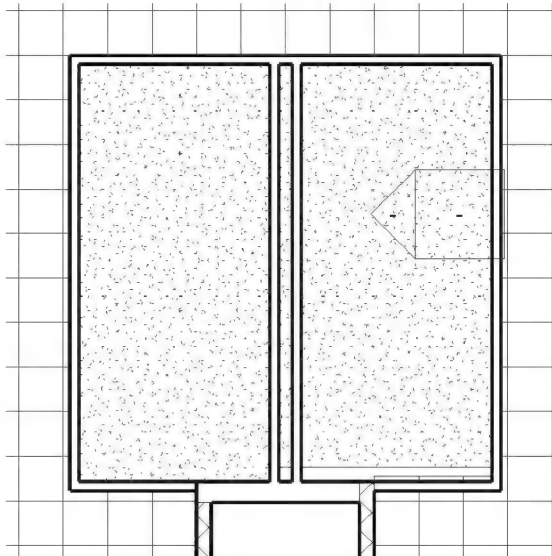

FIGURE 11-1.11 Level 1 RCP
22. Switch to **Level 1 RCP** (Figure 11-1.11).